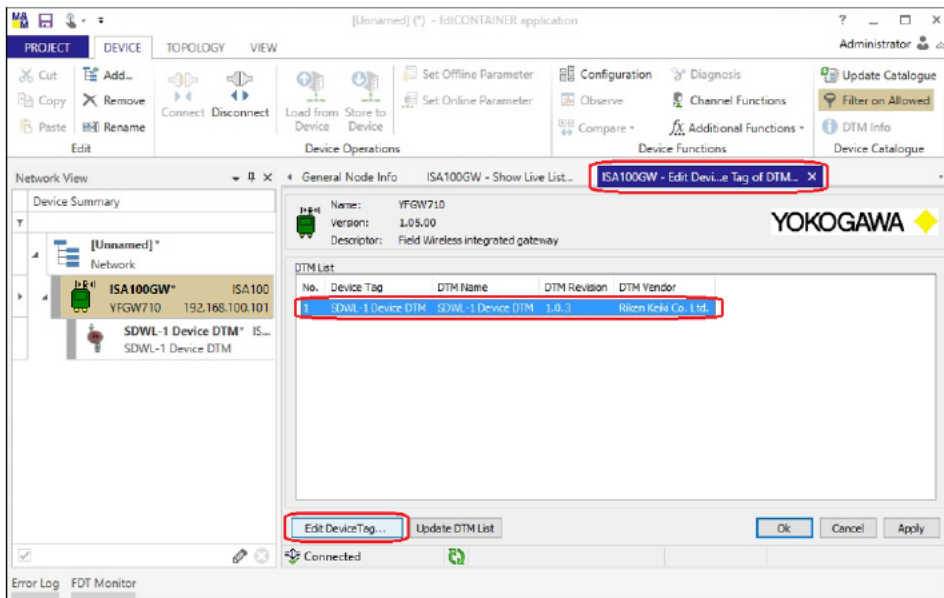

Figure 5-48 DTM list (selecting DTM for editing device tag)
- ⑩ Select the corresponding SDWL-1 from the DTM list in the “ISA100GW # Edit Device Tag of DTM...” tab, then select “Edit Device Tag...”. (Figure 5-48)